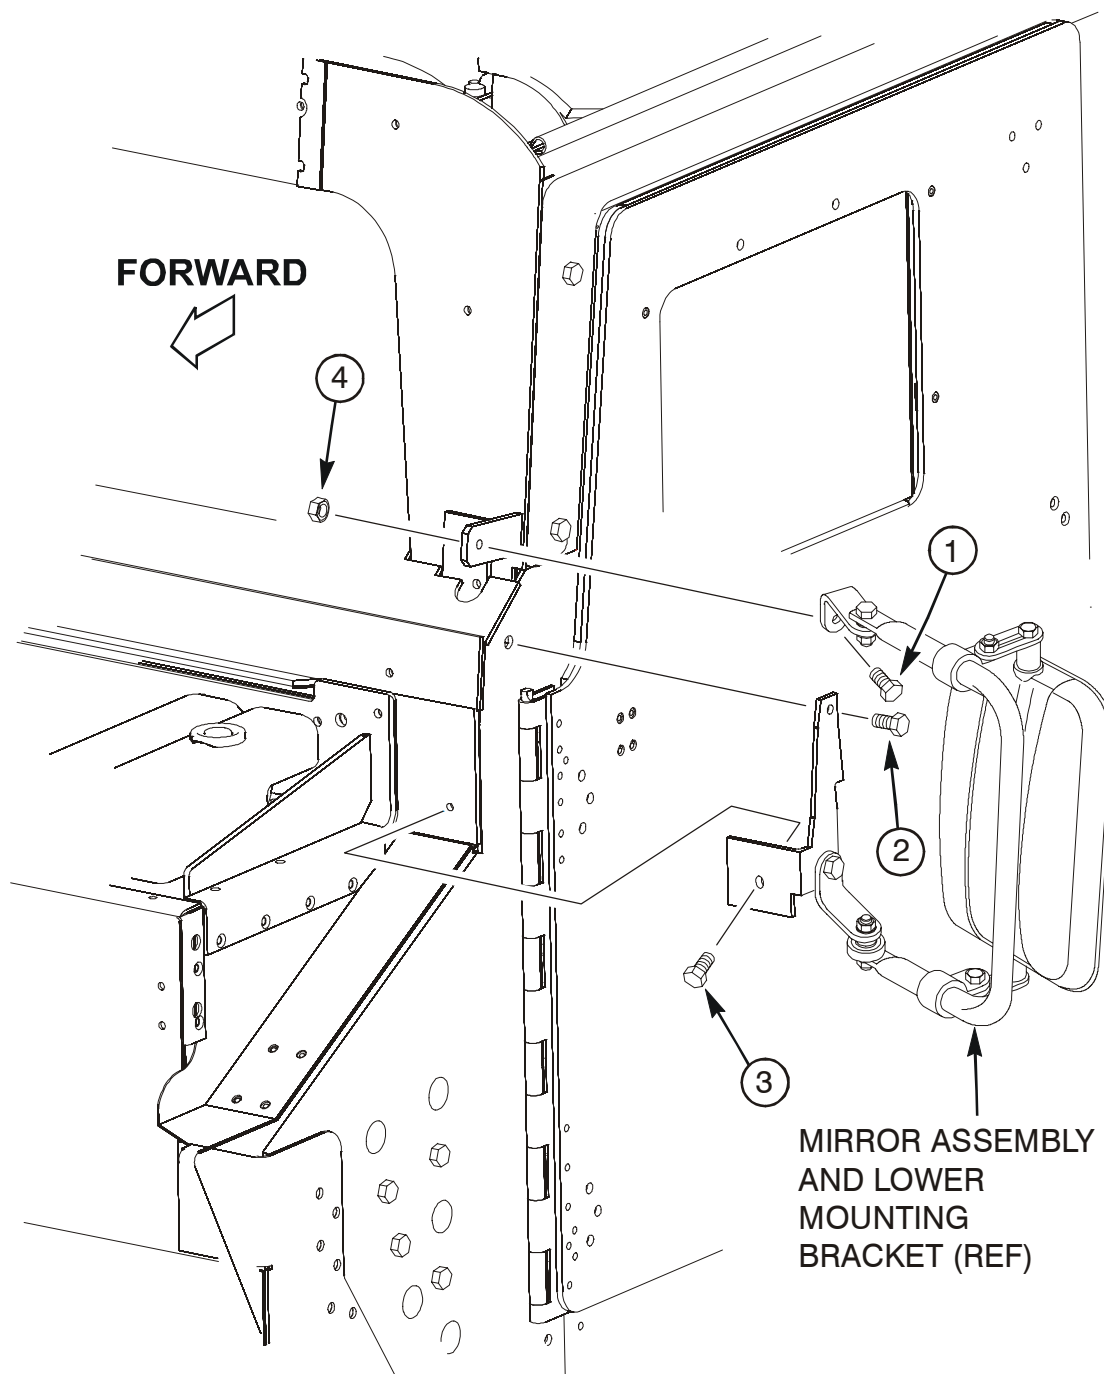

Figure 1.
2. Remove screws (1, 2 and 3) and nut (4) to temporarily remove left side mirror assembly and lower mounting bracket. Discard used attaching hardware. See figure 1.